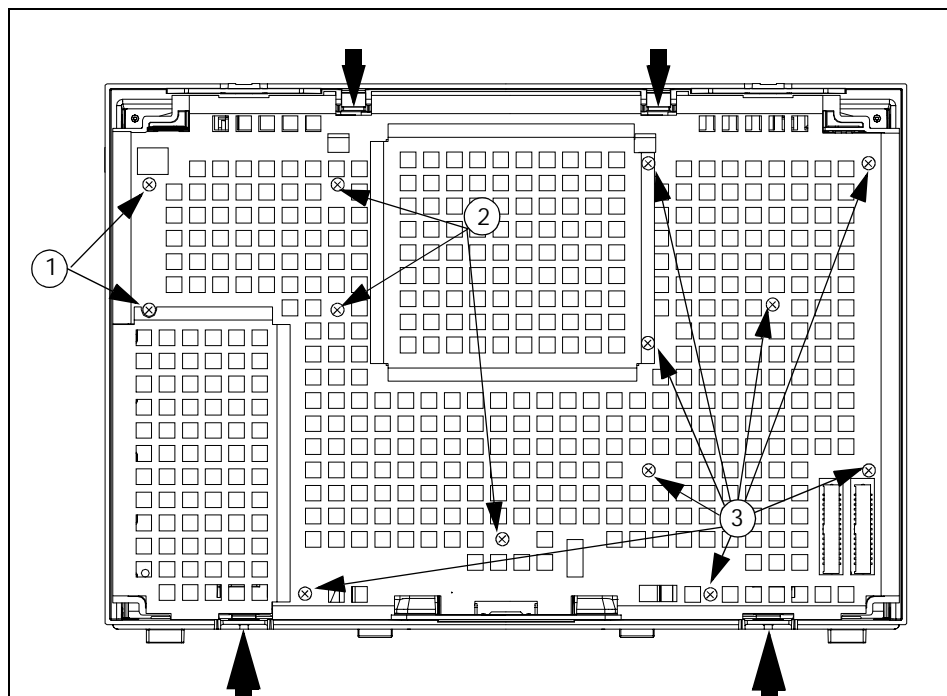

Fig. 3-18 Location of Retaining Screws on Metal RFI Shield (①, ②, and ③):
The integrated subassembly is secured in position in the rear housing by four locking tabs on the RFI cage (two in the top of the rear housing near the front panel locking tabs and two in the bottom of the housing by the thumb depression tabs, indicated by the heavy arrows in Figure 3-18), and by three slide locks that also cover the connectors for the main battery, NBP module, and etCO2 module on the back of the rear housing. See Fig. 3-14.
- 2) Remove and save the retaining screws that secure the metal RFI shield to the Processor Board Subassembly (see Fig. 3-18).
NOTE: Three different sizes and types of screws, as indicated by ①, ②, and ③ in Fig. 3-18, are used to secure the shield to the board. Note the type of screw in each location as you remove it, so that it can be reinstalled in the same location during reassembly.
- 5) Reinstall the metal RFI shield on the Processor Board. See Fig. 3-18.
- 3) Remove and save the retaining screws that secure the metal RFI shield to the Processor Board Subassembly (see Fig. 3-18).